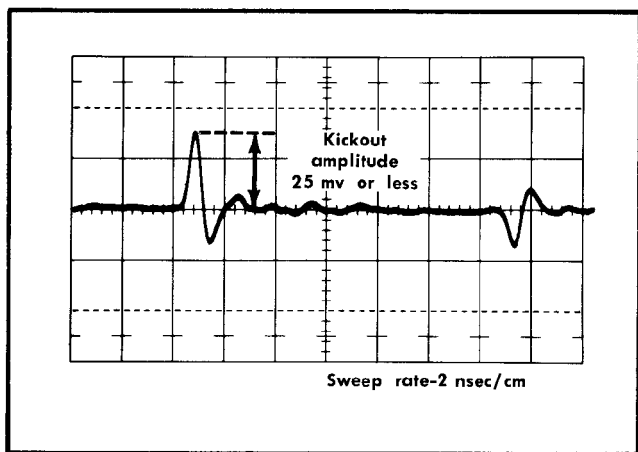

Fig. 5-65. Typical indicator oscilloscope display for checking external trigger kickout.
- Check the display for 25 mv (2.5 cm) or less of trigger kickout (see Fig. 5-65).